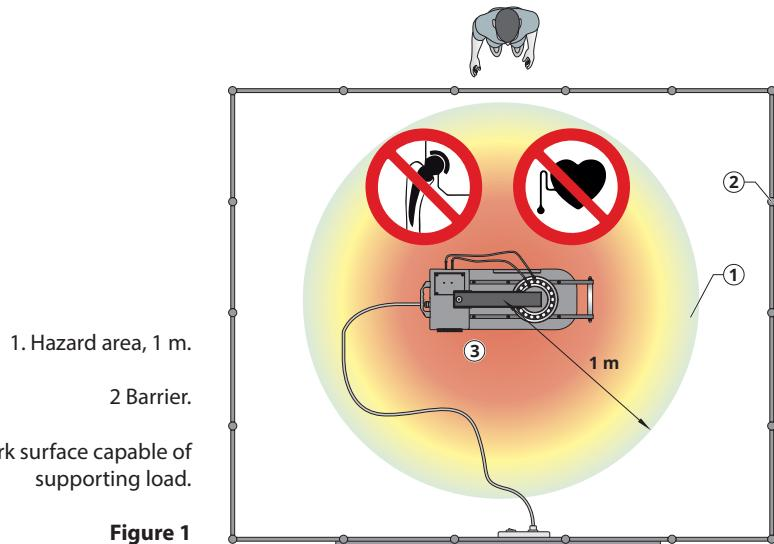

Figure 1
- Danger of heart stoppage in persons fitted with a pacemaker due to the strong electromagnetic field. Ensure that persons fitted with a pacemaker remain outside the hazard area of the heating device. Erect barriers and attach clearly visible warning signs, Figure 1.
- Danger of death for persons with artificial heart valves made from metal, hazard of severe burns due to heating of implants by the electromagnetic field, see chapter 2.2. Ensure that persons with a ferromagnetic implant remain outside the hazard area of the heating device. Erect barriers and attach clearly visible warning signs, Figure 1.